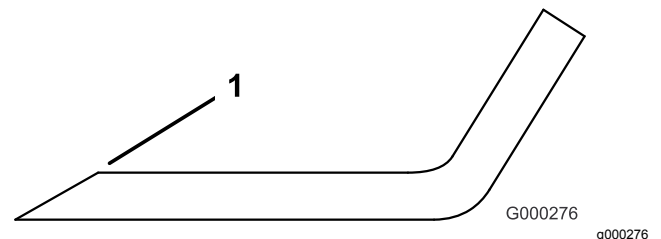

Figure 104
3. Examine the cutting edges of all of the blades and sharpen the cutting edges if they are dull or nicked (Figure 104).
Note: Sharpen only the top of the cutting edge and maintain the original cutting angle to ensure sharpness (Figure 104). The blade remains balanced if the same amount of metal is removed from both cutting edges.